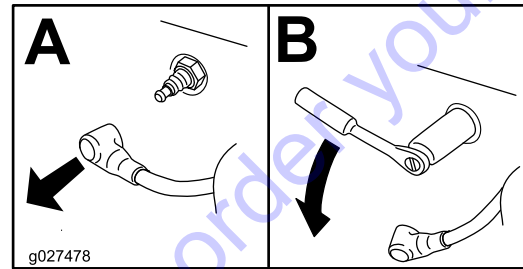

Figure 26
- Remove the spark plug (Figure 26).